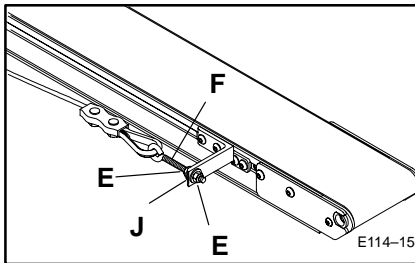

Figure 15: Pull Cord and Eye Bolt to End Fitting Mounting Bracket Attachment Detail
9. Refer to Figure 15 and adjust the correct Pull Cord tension using the Eye Bolt installed through the hole in the End Fitting Mounting Bracket as follows: